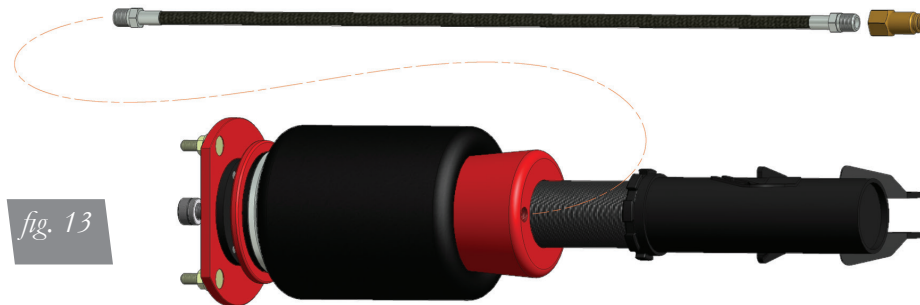

fig. 13
1. Begin by installing the leader line into the air spring (fig. 13). Wrap the threads of the leader hose with Teflon tape or thread sealant. Tighten the appropriate fitting to the airline 1 $\frac{3}{4}$ turns beyond hand tight. Tighten the leader line into the air spring 1 $\frac{3}{4}$ turns beyond hand tight.